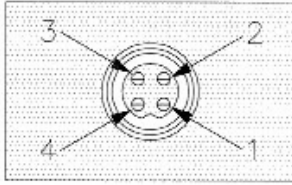

Fig 3. Microphone pin numbers
7. Solder the wires to the pins in accordance with the microphone wiring table above and figure 3 below. Before soldering, the washer must be placed on the threaded portion of the pin receptacle body.